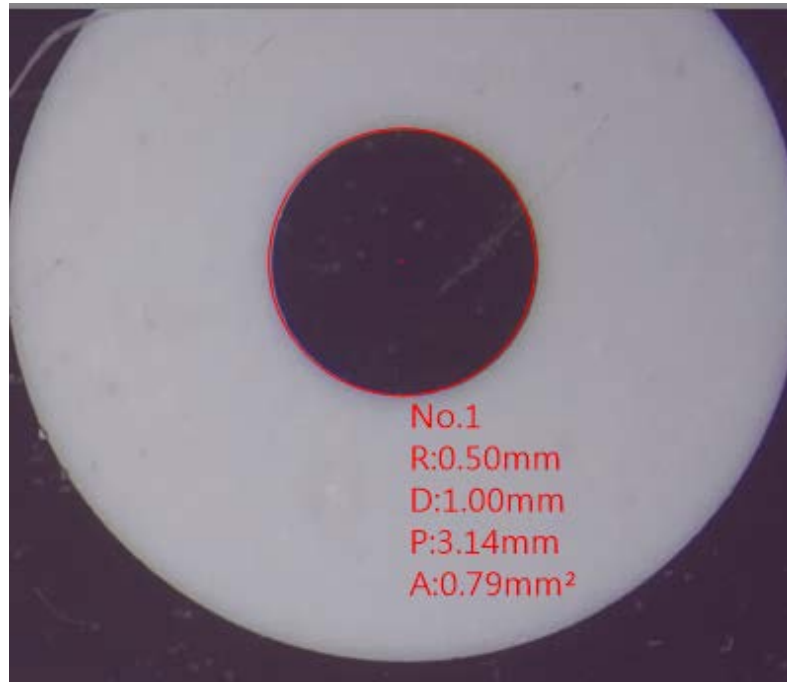

Fig. 5-11 3 Point Circle measurement
- (7) 3 Point Circle : When the object is Circle or just a Arc that can apply  tool. Point 1st point on the edge of object, then point 2nd point, again drag toward 3rd point, that automatically draw a circle. In the Fig. 5-11, Radius is $R=0.50$ mm, Diameter is $D=1.00$ mm, Perimeter is $P=3.14$ mm and Area is $A=0.79$ mm².